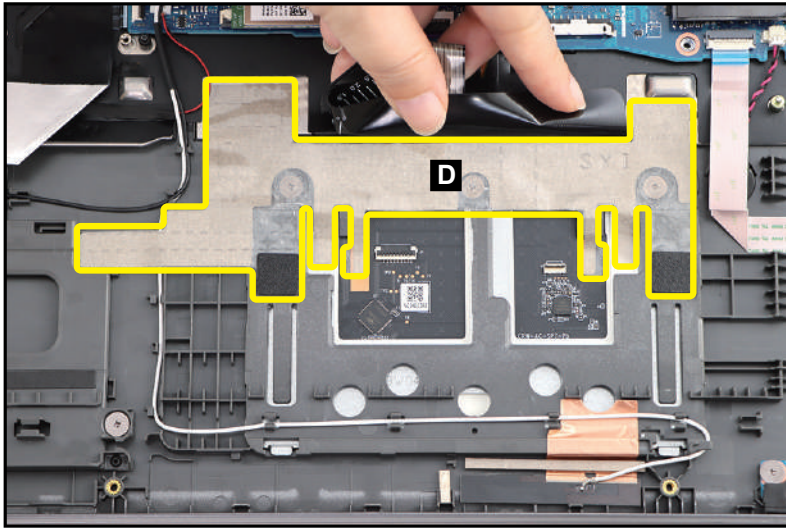

Figure 3-50. Touchpad Module Removal
5. Slightly detach and lift the mylar. Then detach the conductive tape (D) from the touchpad module and top assembly (Figure 3-50).